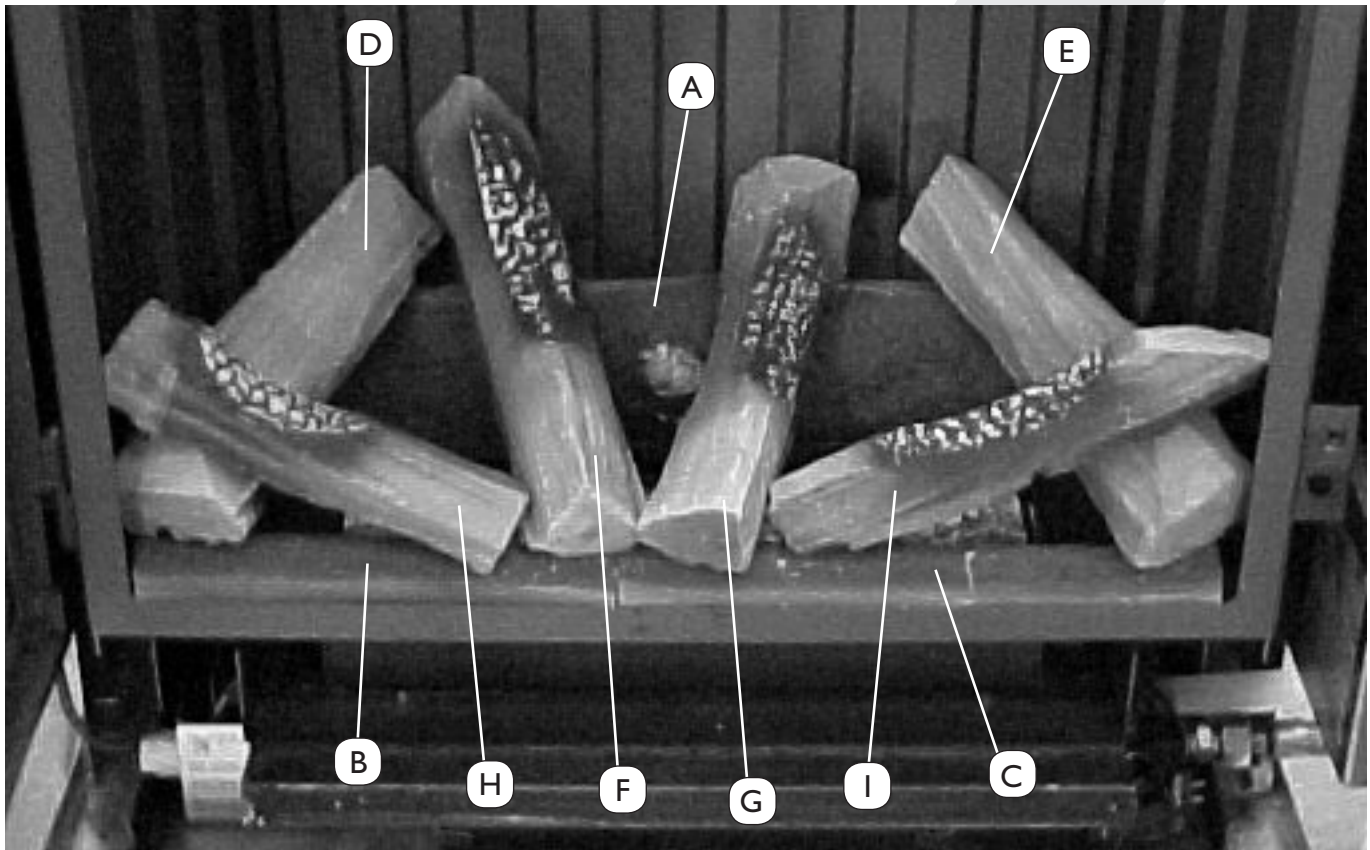

fig. 4b
- Lay the large log (A) against the back wall, on the log supports, with the yellow side down and the knot towards the left.
- Lay the front logs (B and C) with the bark facing up, as illustrated in fig. 4b.
- Now lay the rest of the logs (D, E, F, G, H and I) in place as illustrated in fig. 4b.